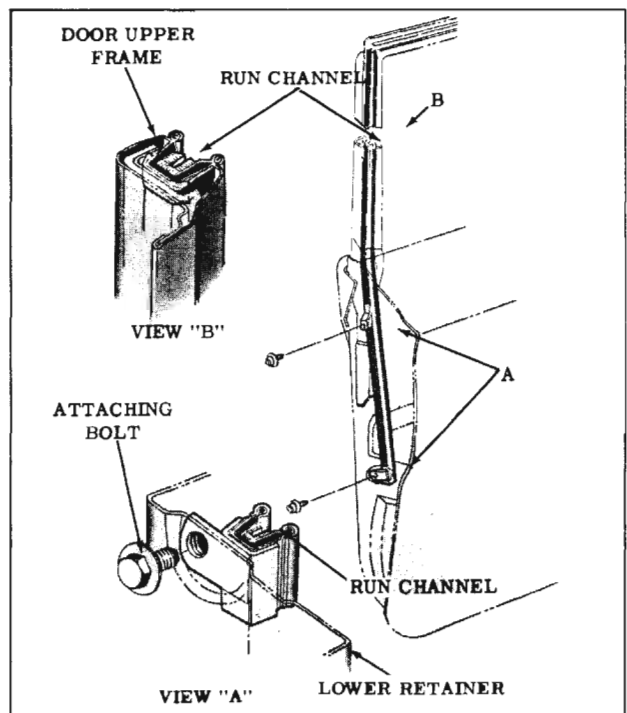

Fig. 16-58 Front Run Channel ("19" Style)
3. Remove lower attaching bolts (two) from hinge pillar facing of door inner panel. (Fig. 16-58)